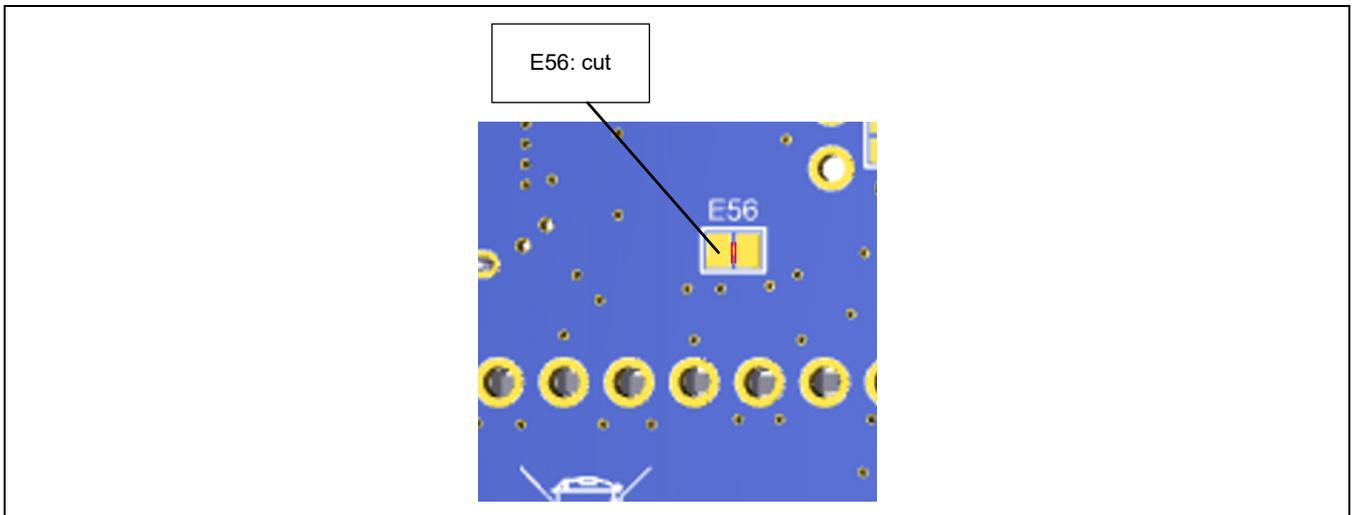

Figure 5-24 Position of Jumper Trace Cut E56 (Soldered Side)
Insert an ammeter between the sockets of the current measurement header (J13) to measure the current. Cut Jumper Trace Cut E56 (Figure 5-24) and turn down the LED to reduce the current drawn with an MCU other than the evaluation MCU.
If you intend to use this board without connecting a USB connector, cut Jumper Trace Cut E56. Figure 5-24 shows the position of the Jumper Trace Cut.
4. If power to be supplied to this product other than via the USB, cut Jumper Trace Cut E56 (see Figure 5-24).